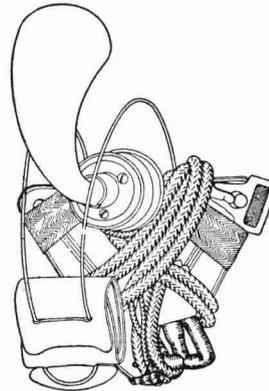
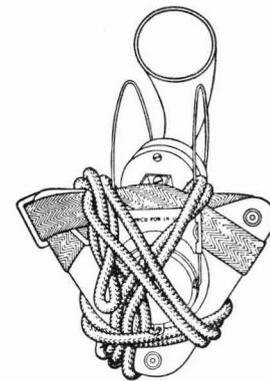

Fig. 7
Fig. 8
4.01 Holding the breastplate vertically in the left hand with the top up and the transmitter on the farther side, wind the neckband across the top corners of the breastplate in a "figure 8" and fasten the free end under the band where convenient. The buckle on the free end should not be hooked over the edge of the breastplate.
4.06 Repeat the previous operation as often as necessary, as in Fig. 7, finally tucking the end firmly between underlying cord windings, as shown in Fig. 8.